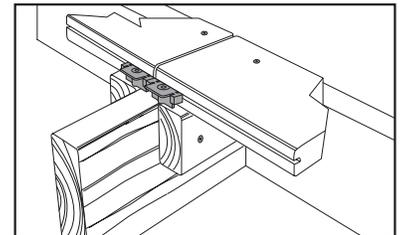

figure 2
**Side gapping:** 1/4". **End-to-end spacing:** Follow gapping requirements listed in figure 1. For any decking where two boards meet end-to-end over a joist, add additional blocking (figure 2). Allow 1/4" distance between all decking material and any permanent structure or post. After all of the decking has been attached, snap a chalk line (white or yellow chalk recommended) flush with or up to 1-1/2" out from the deck framing and trim with a circular saw.